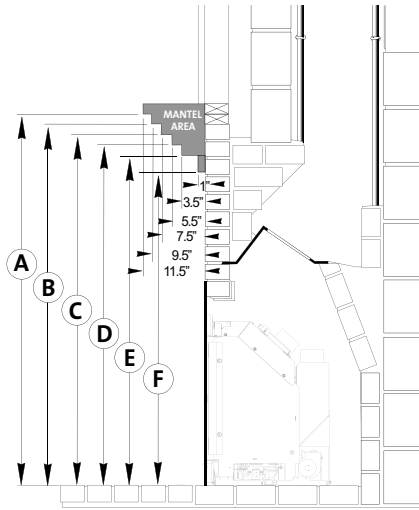

Figure 107. Mantel, Trim and Wall Clearances.
- F: Mantel Clearance from hearth: See fig. 107